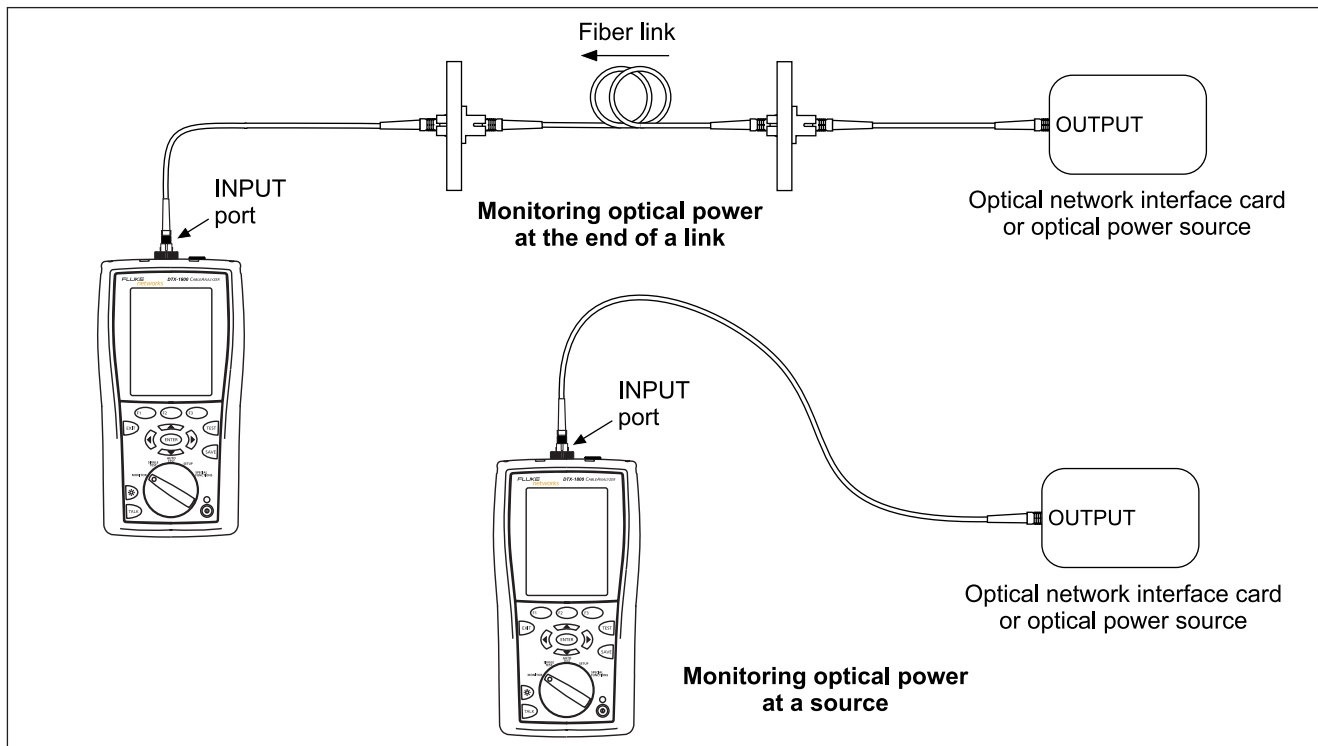

Figure 19. Connections for Monitoring Optical Power
- 2 Use the reference test cord to connect the source to the tester's input port, as shown in Figure 19. Turn on the source.